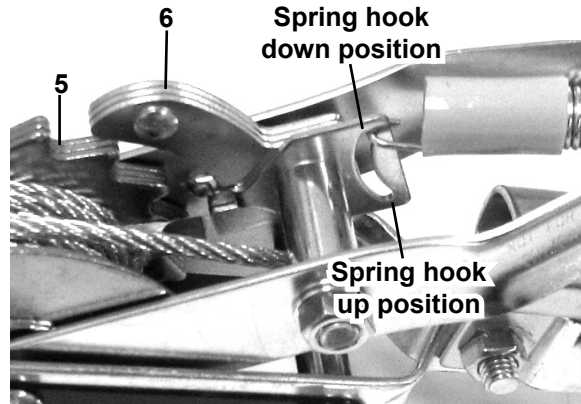

Figure 2
4. To engage the Drive Pawl (6), press it down to contact the Ratchet (5) located just below Drive Pawl (6) as shown in Figure 2.
5. Slide the spring hook to the opposite end of its slot to make the Drive Pawl (6) stays in place. Begin cranking the Handle (9) toward the Anchor side of the Puller to begin pulling the load. See Figure 2.
1. Hold the release lever down by cranking the Handle (9) one notch tighter. As soon as the Pawls clear the ratchet tooth the unit will disengage. When loosening the Cable (8), slide the spring back to the other end of the slot, see **Figure 2**. Pull a short portion of the Cable (8) to create slack in the line.
2. Disconnect the Load Hook (11) and the Hook (1).